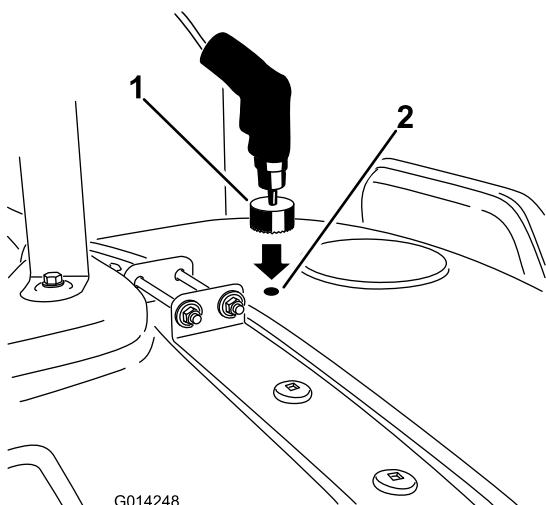

Figure 13
7. Move to the drill mark in front of the tank lid and repeat the procedure for the forward hole (Figure 13).